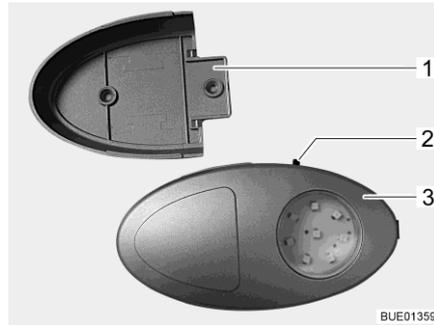

Fig. 82 Wardrobe light/torch
- ▷ The wardrobe light can be removed from its holder (Fig. 82,1) and used as a torch.
The On/Off switch (Fig. 82,2) is located directly on the wardrobe light (Fig. 82,3).